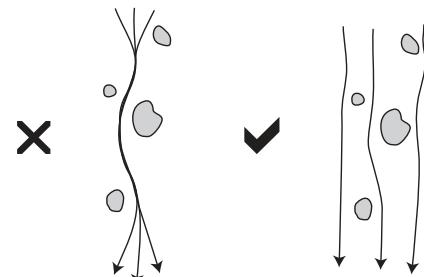

Figure 32. When avoiding obstacles in a block, avoid funneling traffic and keep skidding dispersed if possible.
- If utilizing dispersed skidding, avoid funneling traffic over the same ground (**Figure 32**). The majority of compaction occurs after two or three cycles, or less if soil moisture is near field capacity.